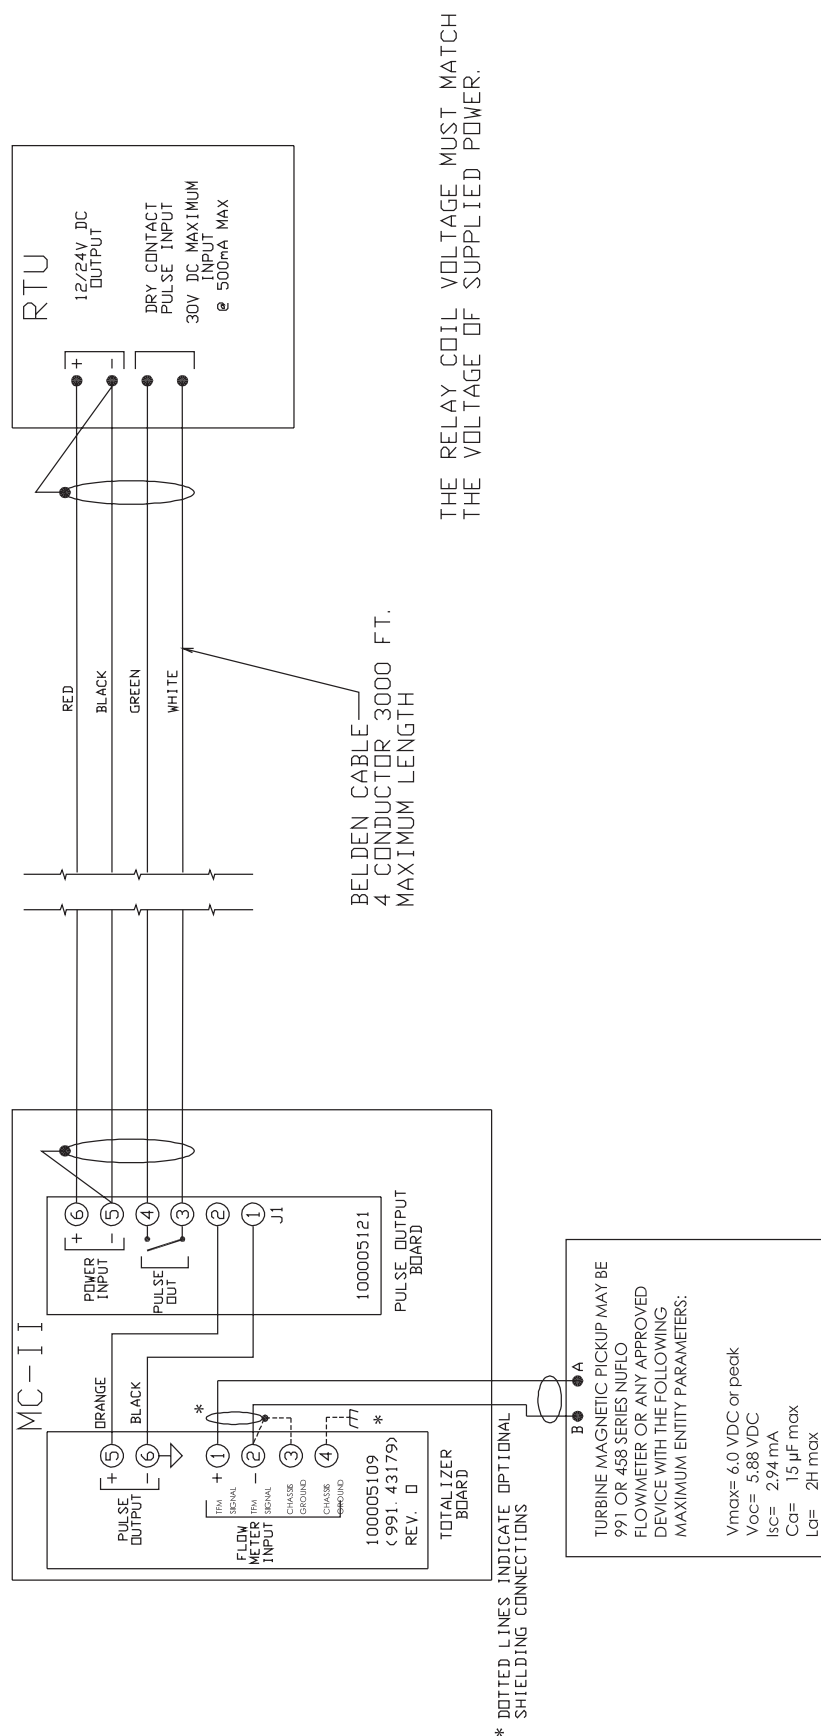

Figure A2—Field wiring for dry contact pulse output option (non-hazardous areas)
3. Connect the wiring in accordance with Figures A2 (dry contact), A3 (open collector) and A4 (opto-isolated).